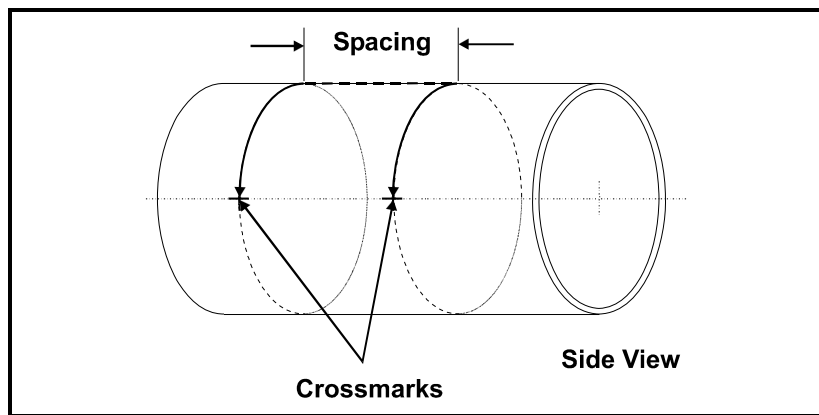

Figure 1-12: Measuring a Quarter-Circumference
6. From each of the marks, measure around the circumference of the pipe in the same direction a distance equal to one quarter the pipe's circumference, as shown in Figure 1-12 below. Make a crossmark with a marker or scribe.